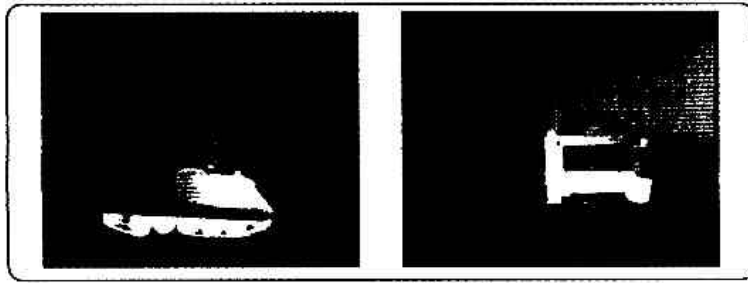

Figure A-3. M113 armored personnel carrier.
c. **M113 Armored Personnel Carrier** (Figure A-3).